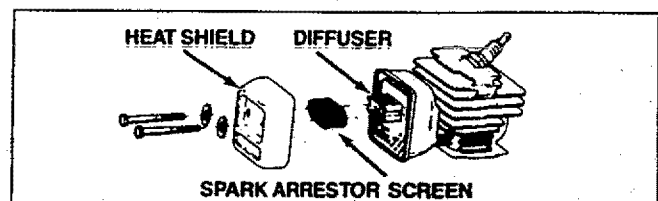

Figure 36
- Remove the heat shield. Figure 36.